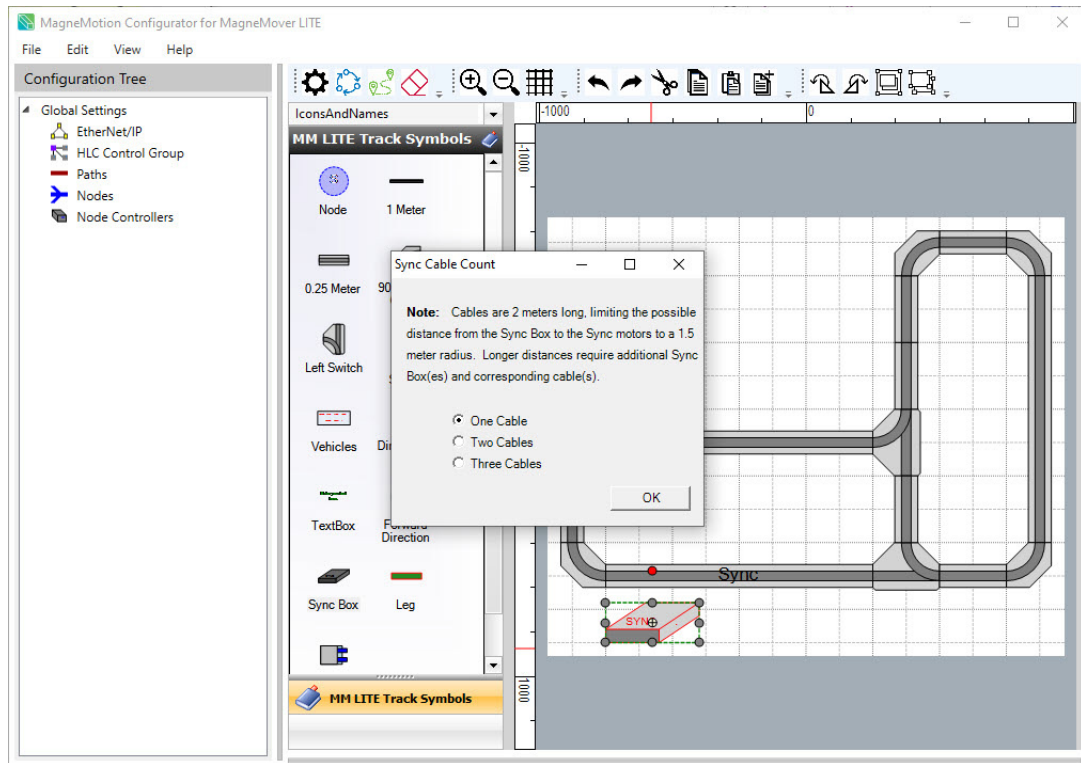

Figure 3-9: Sync Cable Count Dialog Box
*The **Sync Cable Count** dialog is displayed, see Figure 3-9.*